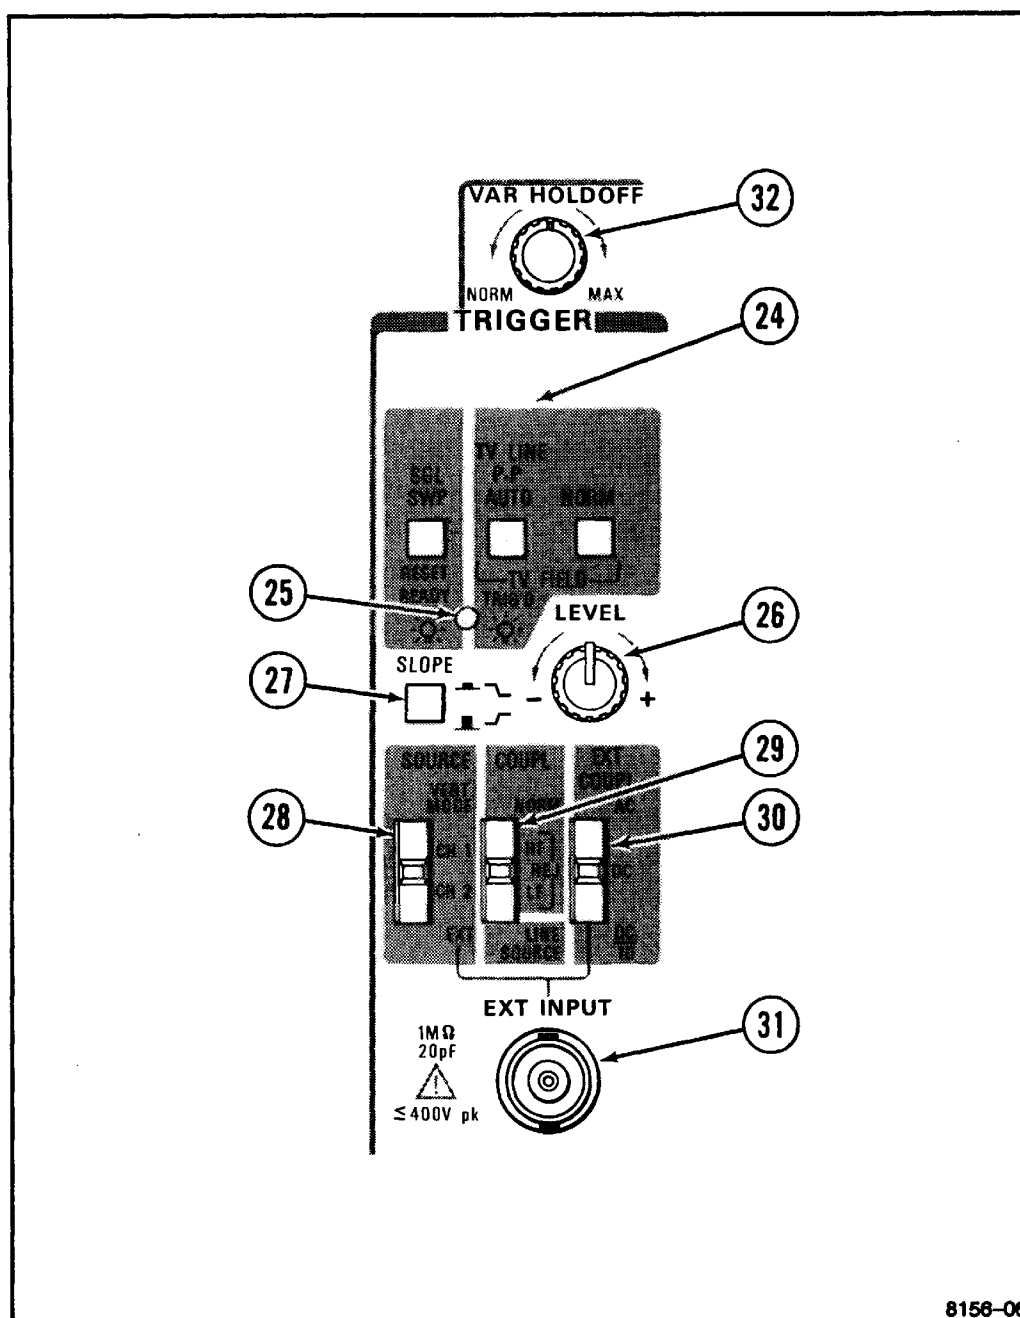

Figure 3-4. Trigger controls, connector, and indicator.
Refer to Figure 3-4 for location of items 24 through 32.